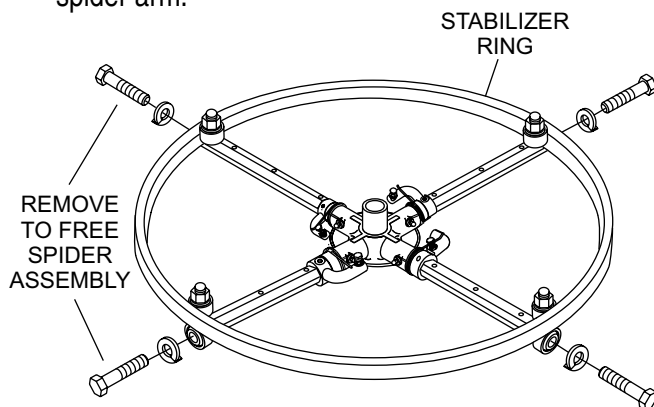

Figure 39. Stabilizer Ring
1. If the trowel is equipped with an outer stabilizer ring (Figure 39), remove the four bolts at the end of each spider arm.